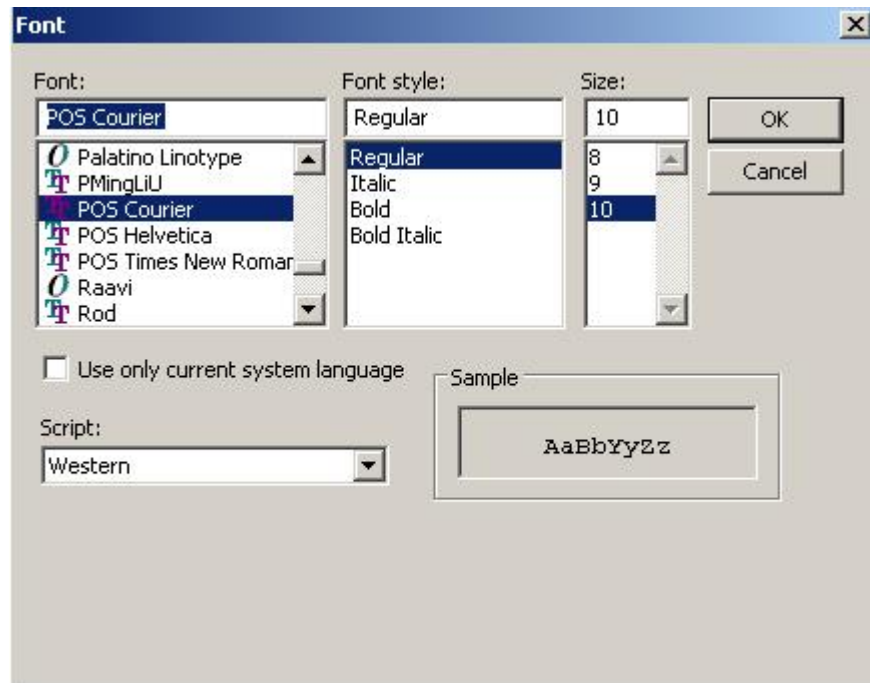

Figure 52. Select Font window
4. Click **Select** for Font 1 or Font 2. The Select Font window opens (see Figure 52).